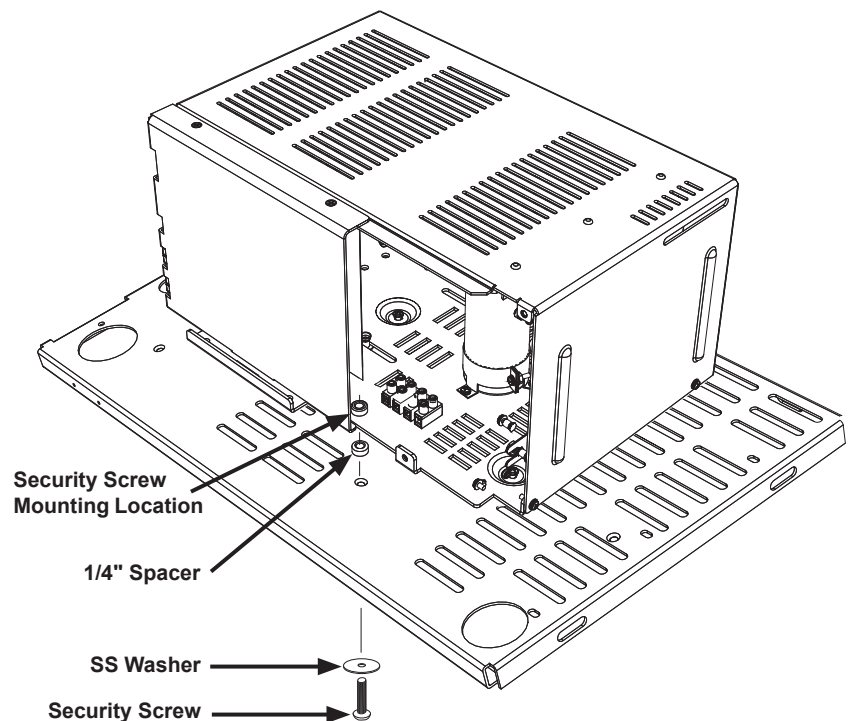

Figure 2-3, Power Supply/Enclosure Shelf Security Screw Stack Up
5. Position the XM3-HP Power Supply with the security hole over the drilled hole and spacer (use the center punch to hold the spacer in place while situating the power supply) (see Fig. 2-3).